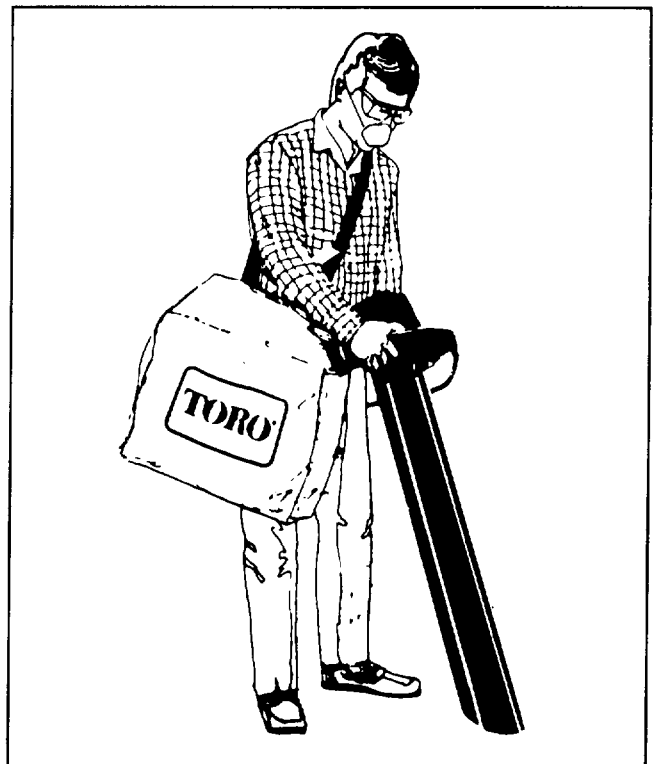

Figure 8
1. With vac tubes and bag attached, pick up unit with left hand, holding handle and right hand on textured part of housing. Bag should be on right side. Place bag strap over shoulder, and adjust length to fit (Fig. 8).